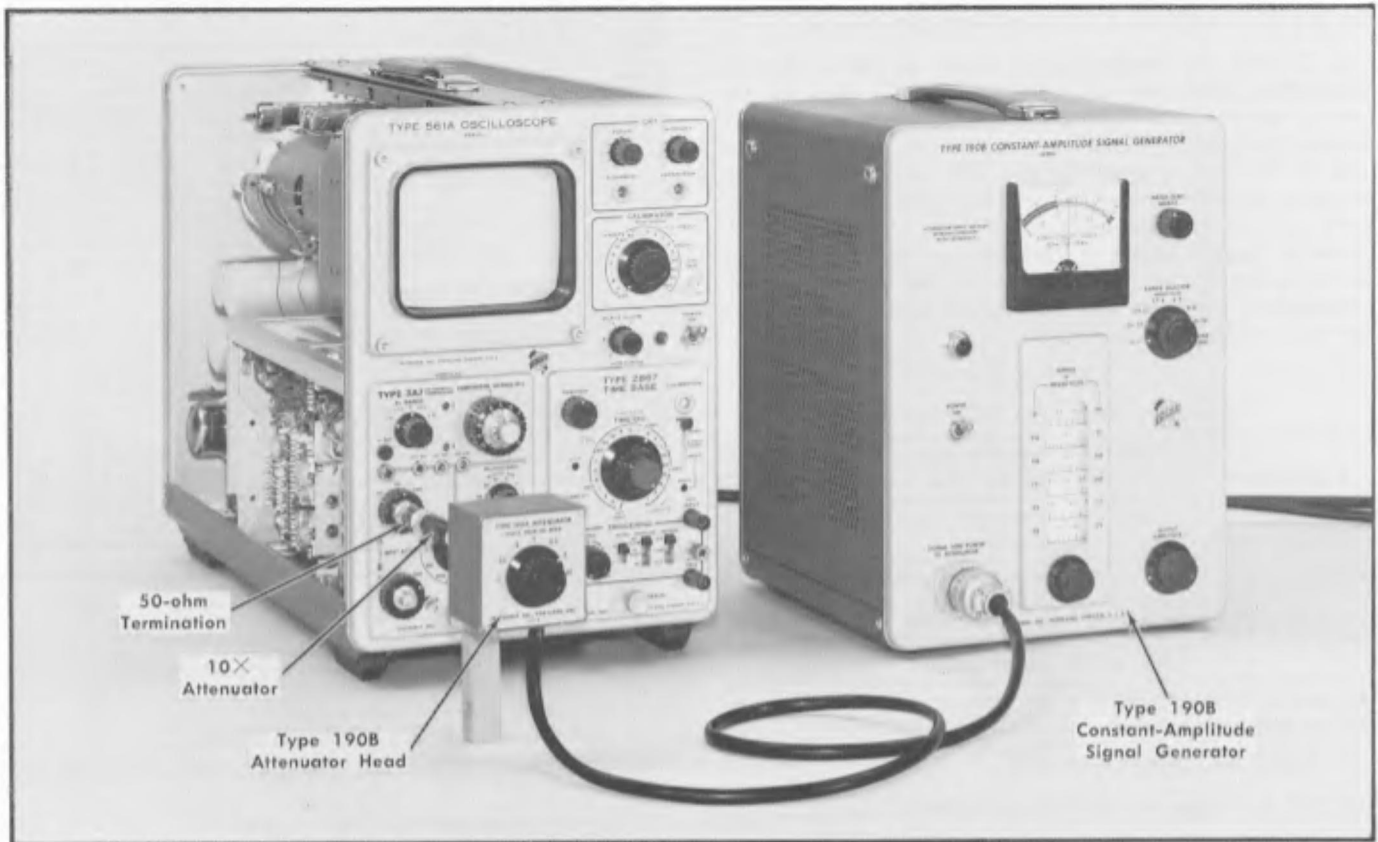

Fig. 5-46. Setup at completion of step 36c.
c. Apply a 50-kHz 300-mV peak-to-peak sine-wave reference signal from the Type 190B to the B input connector. Use a 10X attenuator and 50-ohm termination, connected in series, to reduce and terminate the signal output from Type 190B attenuator head. Set the Type 190B attenuator-head switch and front-panel Output Amplitude control so the vertical deflection of the display is exactly 6 div (300 mV). Fig. 5-46 shows the setup. Fig. 5-47a shows the display that should be obtained.